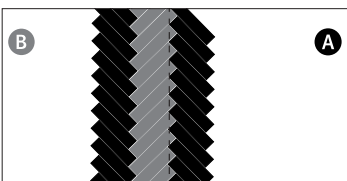

Figure 10
- After the first row is completed. You can continue to build off of either side of the first row alternating complete rows of A or B planks using the plank opposite of the row before it. As you get to the end of each row be sure to cut end pieces against the wall while maintaining the expansion gap. (Figure 10).